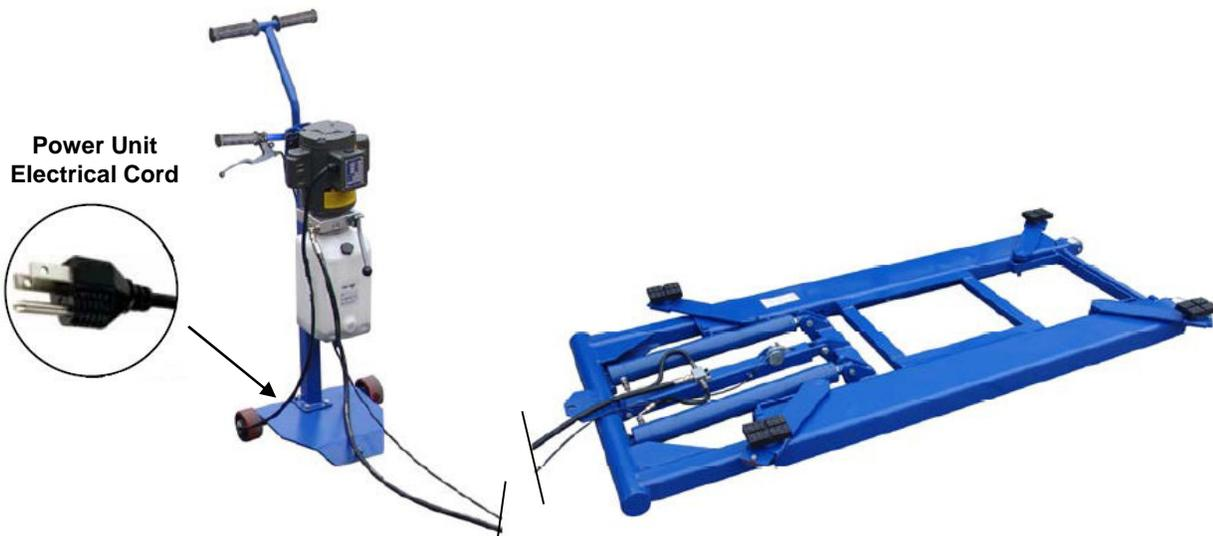

Fig. 5
- A. Connect the 115VAC electrical power to the Power Unit's three prong electrical plug. Ensure to use proper size extension cord and plug type for 20 Amps (Fig 5.)